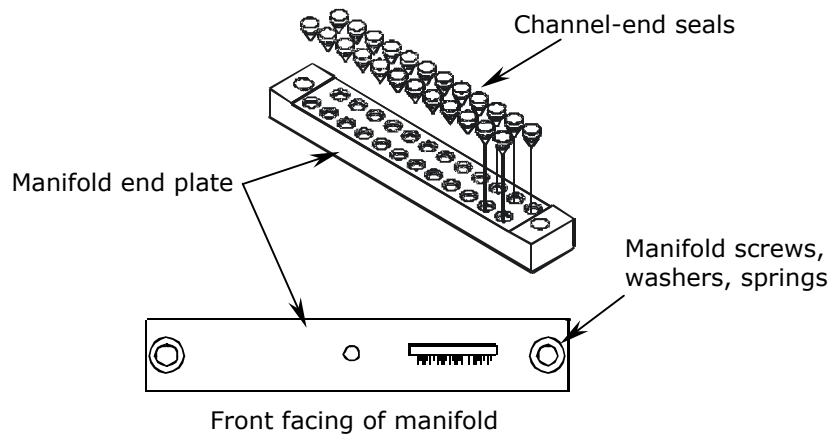

Figure 29: Replacing the Channel-End Seals
1. If you haven't already done so, remove the manifold end plate to access the channel-end seals as described in Step 7 on page 119, when removing the manifold(s). See **Figure 29** on the following page.